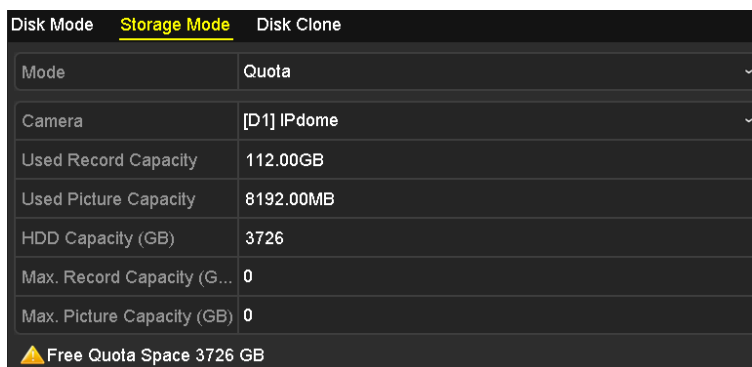

Figure 13-16 Storage Mode Settings Interface
Step 2 Set the **Mode** to Quota, as shown in Figure 13-16.